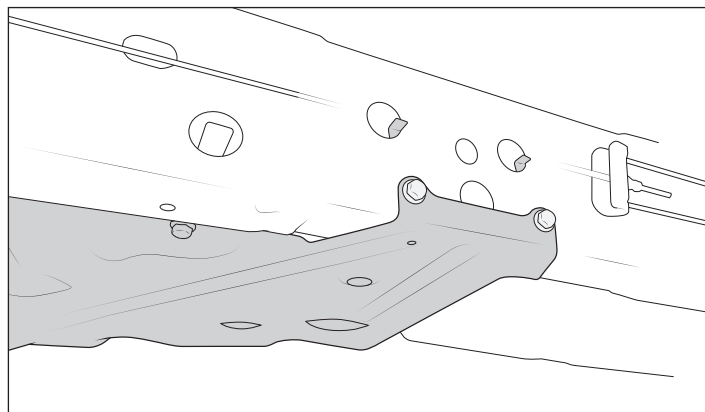

Figure 5
- C. Install QTY 2 Flag nuts into driver-side frame rail and secure using QTY 2 M10 bolts (fig. 5).